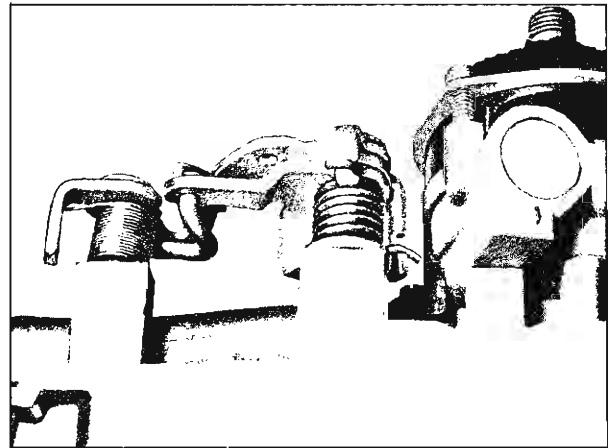

Fig. 42—Throttle Shaft Levers Installed
3. Install secondary throttle shaft dog lever and spring. Wind spring one turn (fig. 42).